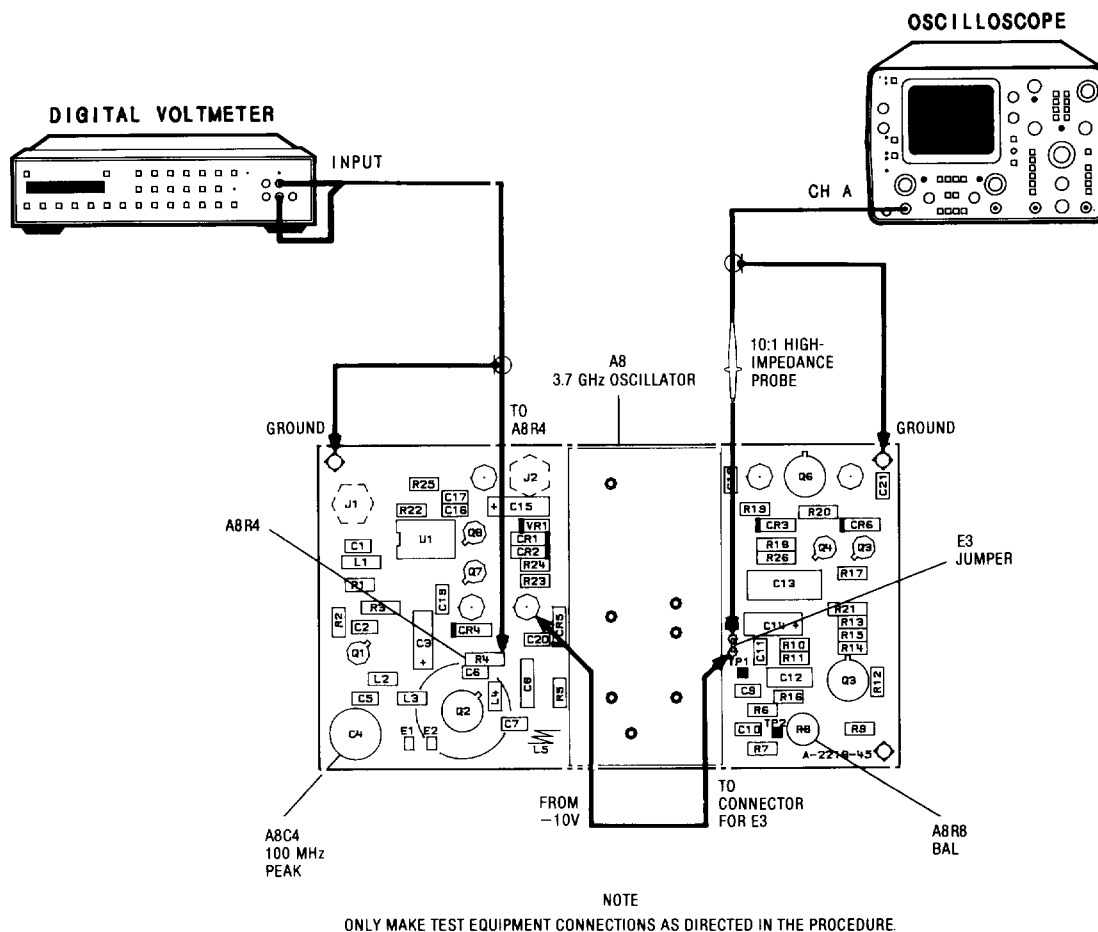

Figure 5-33. A8 3.7 GHz Oscillator Test Setup
1. Connect the DVM to A8R4 as shown in Figure 5-33.
4. Remove the Jumper A8E3. Connect a jumper from the –10 volt terminal to the lower connection point for E3 as shown in Figure 5-33. (This applies –10 volts to the oscillator.)
5. Connect the Oscilloscope 10:1 high-impedance probe to the upper connection point for E3 as shown in Figure 5-33. Switch the DUT on.